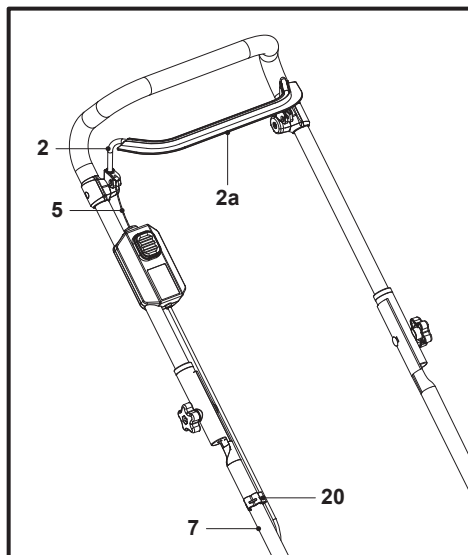

Fig. 4
6. Fit the protective sleeve (2a) onto the start lever (2) and fix the control cord (5) with the cord clip (20) on the lower handle bar (7) (Fig. 4).